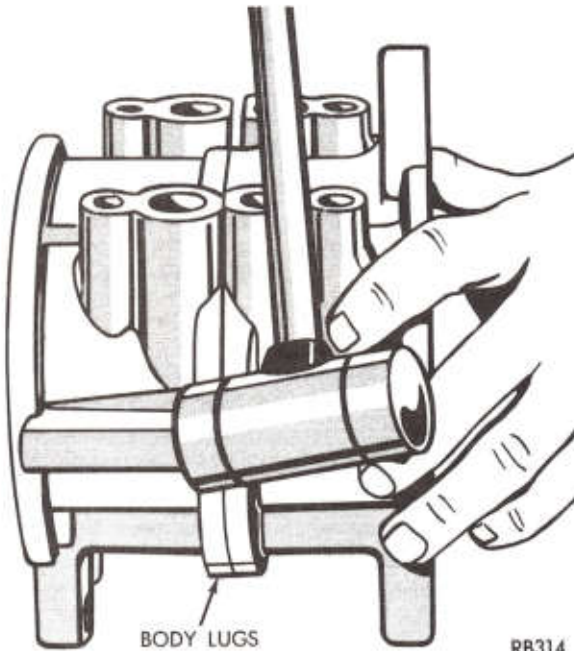

Fig. 12—Separating Body Halves
- (12) Carefully separate front and rear compressor housings by tapping the body lugs with a plastic hammer (Fig. 12).